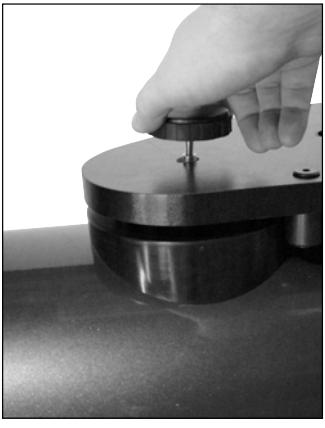

Figure 6. The retaining knob now goes through the shaft of the altitude encoder assembly before threading into the side bearing on the telescope tube.
- 8) Reinstall the telescope's retaining knob, without its black nylon bushing, through the altitude encoder's aluminum shaft (now protruding from the right side panel) and into the tube's side bearing (Figure 6). Make sure this knob is fully tightened.